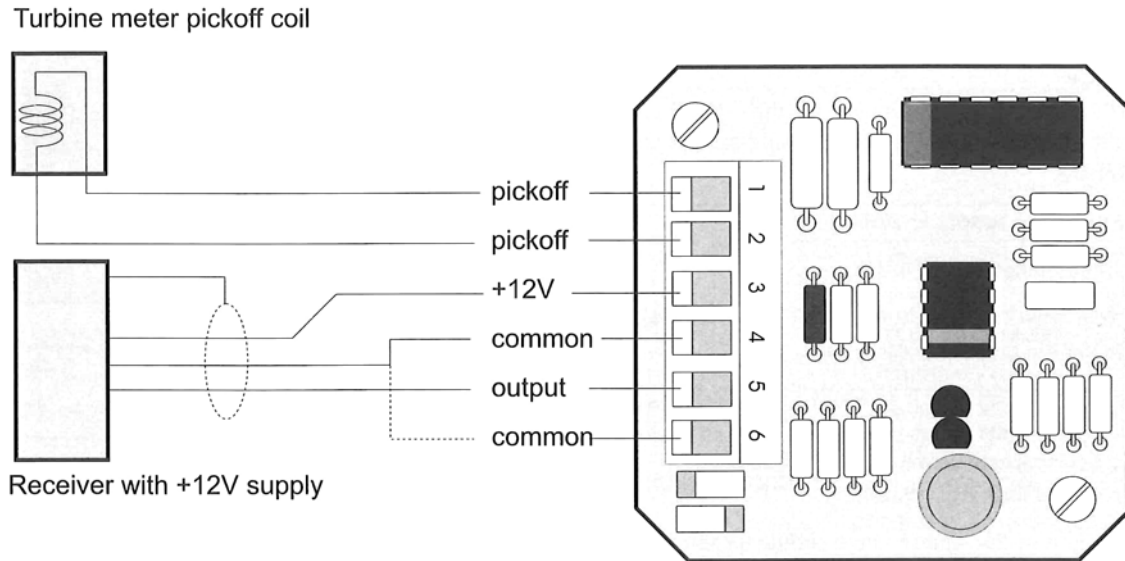

Figure 4-1. Preamplifier Electrical Connections
Make the input signal connections in the preamp terminal strip at positions 1 and 2 (see Figure 4-1); make the power supply connections at positions 3 and 4; and make the output connections at positions 5 and 6. See Table 2-3, Specifications, for output cable type.
4. Disconnect pickoff leads from the preamplifier terminal strip (see Figure 4-1).